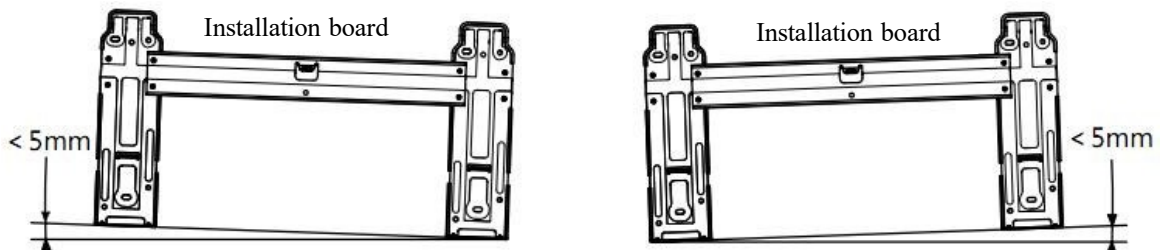

Fig 4
- Dismantle the metal installation board of the indoor unit. Adjust the installation board to horizontal position.The height difference between the left and right sides of the installation board should less than 5mm.(Fig 4)